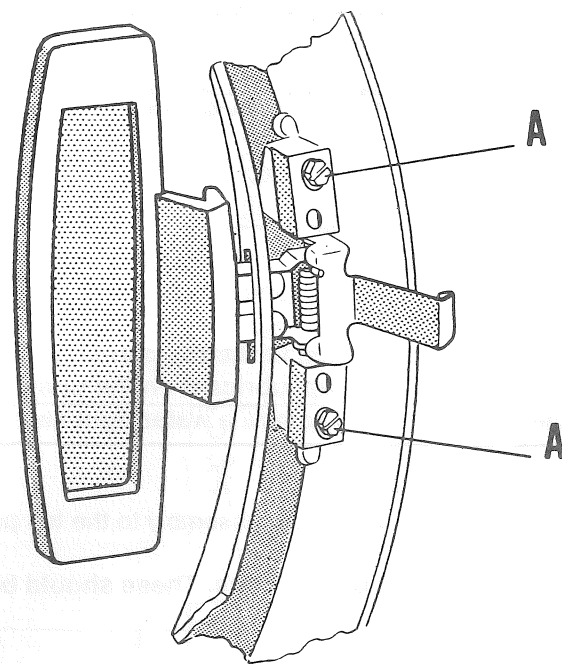

Figure 4-1 Latch Mechanism
2. Place the ring on a scratch free surface and remove the 2 screws securing the pin and latch (See "A" in Figure 4-1).